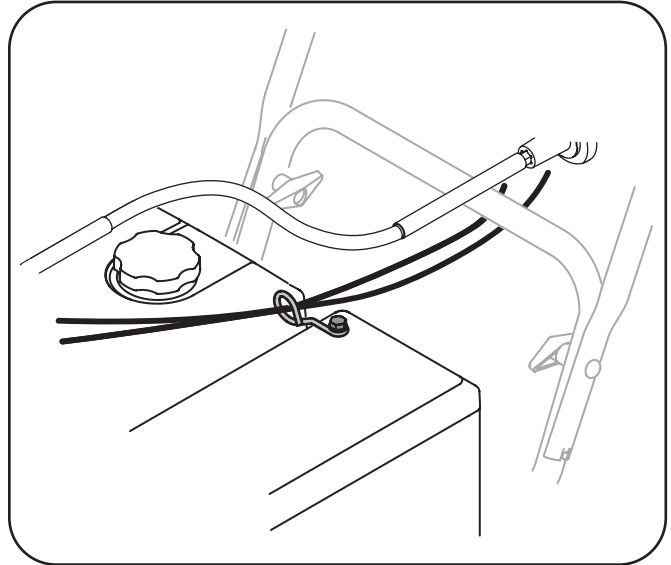

Figure 3-10
9. Check that all cables are properly routed through the cable guide on the right side of the chute crank rod. See Figure 3-10.